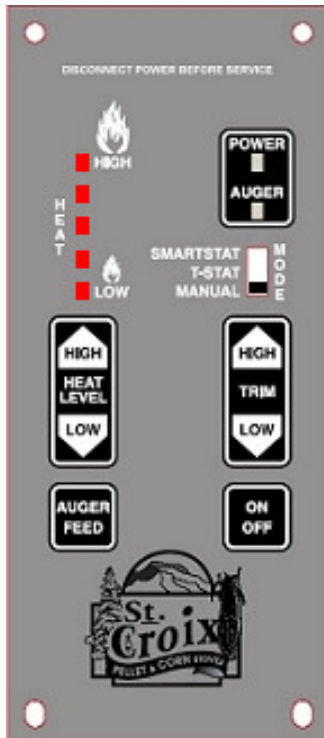

Figure 3
3 - **Program 3.** The Cycle Time is 11.5 seconds. **THIS PROGRAM IS THE DEFAULT PROGRAM FOR USE WITH THE PRESCOTT MODELS.** This program is for use with Pellets, Cherry Pits and a 50/50 Percent Mixture of Pellets and Corn (See fig. 3 on page 8). **(DO NOT USE THIS PROGRAM WITH OUR GRAIN BURNING MODELS).**
4 - **Program 4.** The Cycle Time is 10 seconds. **THIS PROGRAM IS ONLY FOR USE WITH THE CHERRY PITS. (See fig. 3 on page 8). (DO NOT USE THIS PROGRAM WITH OUR GRAIN BURNING MODELS).**
To change the Program the Stove must be in the OFF position, the unit must be completely cooled down so the Proof of Fire Switch is Open and the Thermostat slide switch must be in the Manual mode. (See figure 3)
2. Push the On/Off button on the control board. (See figure 3)